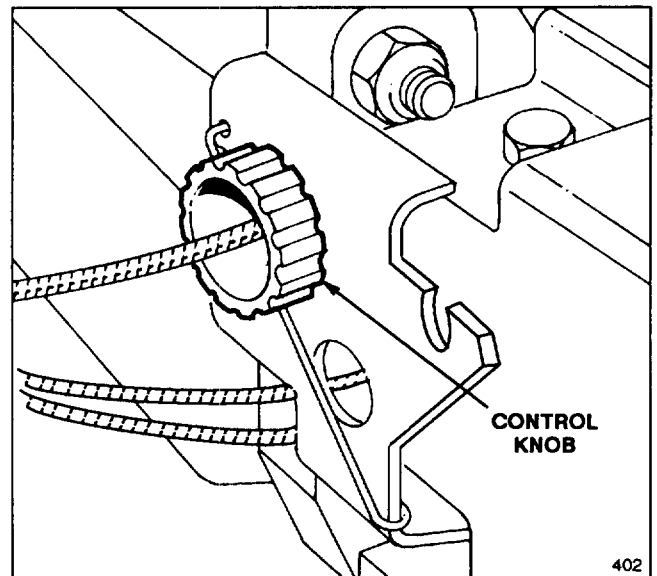

Figure 19
1. ADJUSTMENT (Fig. 19) – Rotate control knob clockwise 1/2 turn if mower does not self-propel. If mower creeps forward, rotate knob 1/2 turn counterclockwise to loosen belt.